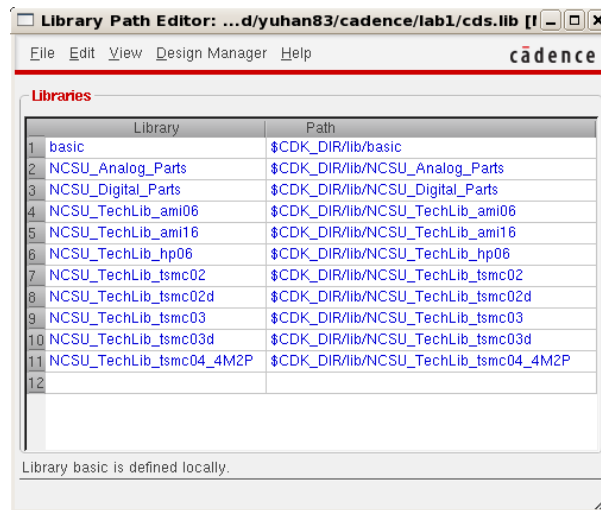

Figure 1. Library management
The above sections contained instructions on how to capture a schematic and perform logic simulation. Now we have to follow these instructions to complete the entire design (keep figure 1 of “Lab 0” in mind...that is what we have to build and simulate to verify) of the pipelined adder. Make sure you name the schematics and other files you use appropriately so that you may look back anytime.
- Now, after completing all the individual building blocks to design the 8-bit pipelined adder using these building blocks in the same manner. Use the 4-bit adder, 4-bit register that you have designed and FF's to complete the design as shown in Fig 1 from Lab0. Simulate the circuit by giving the appropriate inputs to verify the operation of the circuit (a subset of test cases is enough). (The output will appear at the immediate rising clock edge following the input).